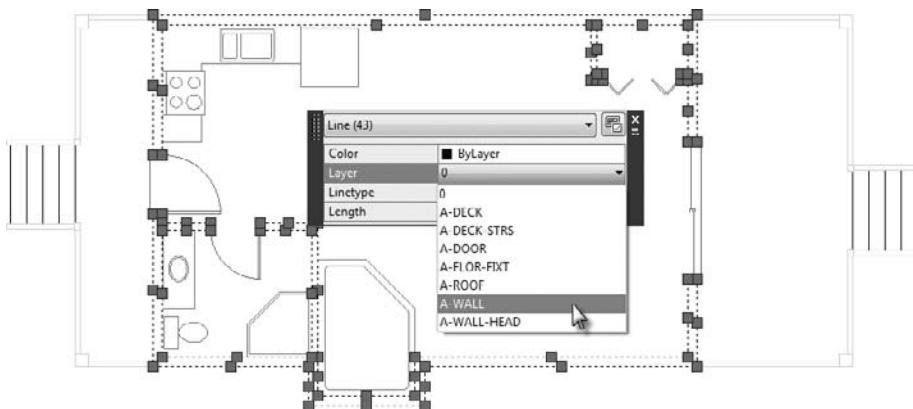

FIGURE 6.29 Using the Quick Properties panel to select the A-WALL layer after using the Select Similar command to select every line on layer 0.
4. The Select Similar command selects all of the lines on layer 0. Use the Quick Properties panel to select the A-WALL layer (see Figure 6.29).